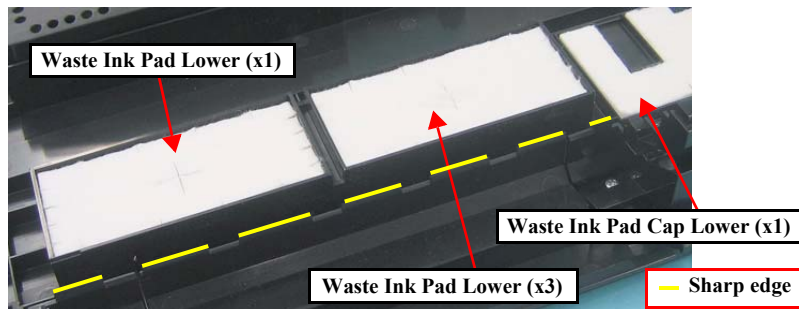

Figure 1-64. Removing the Waste Ink Pad
- Be careful of the seven sharp edges shown in Fig.1-64 when disassembling or reassembling.